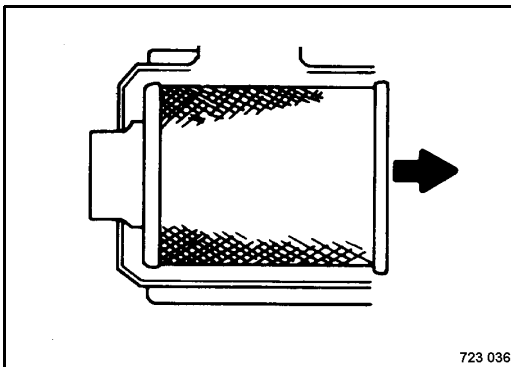

Fig. 142
- Pull the main filter element (Fig. 142) carefully out of the housing.